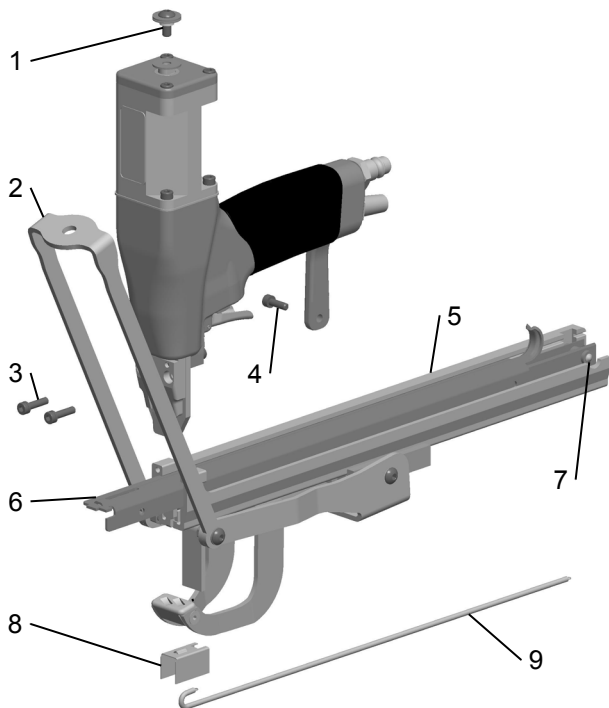

Fig. 6
- Disassemble the screw (Fig. 6/1) holding the power arm (6/2) and turn it underneath the magazine.